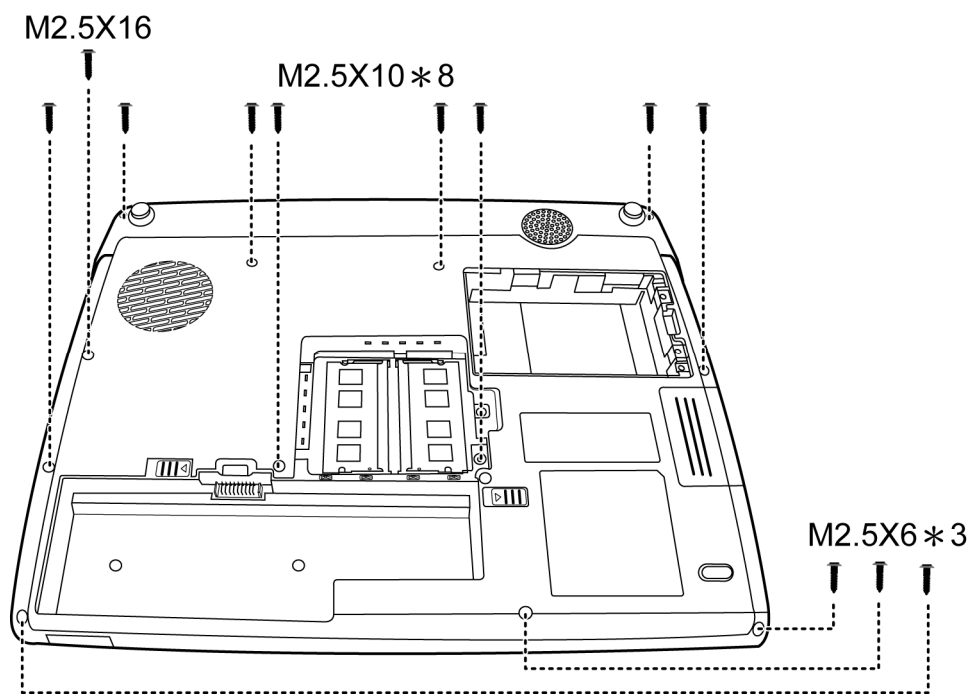

Figure 4-12 Removing the screws from the bottom of the computer
Remove the top cover according to the following procedures and Figures 4-12 and 4-13.
Install the top cover with the display assembly according to the following procedures and Figures 4-12, 4-13.
2. Connect the six cables as indicated in Figure 4-12.
3. Turn the computer upside down and secure it with 14 screws as indicated in Figure 4-12: